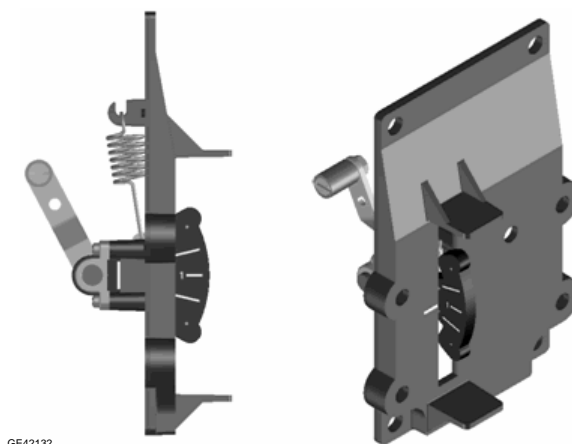
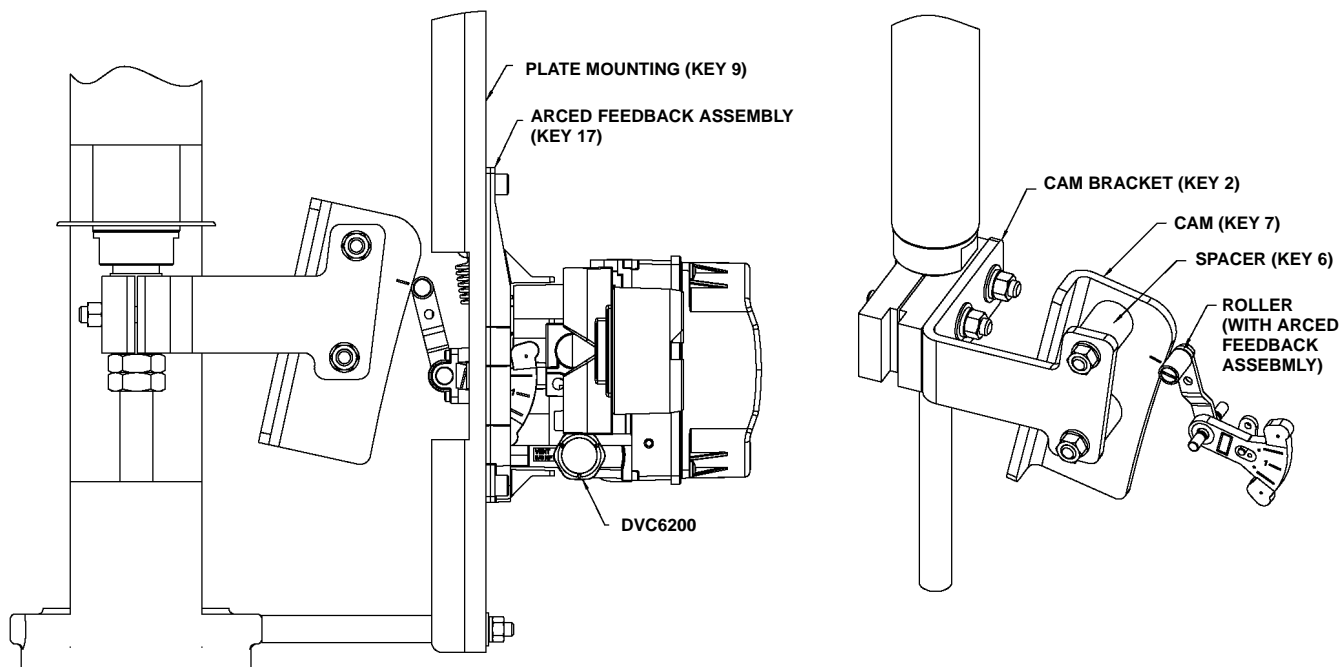
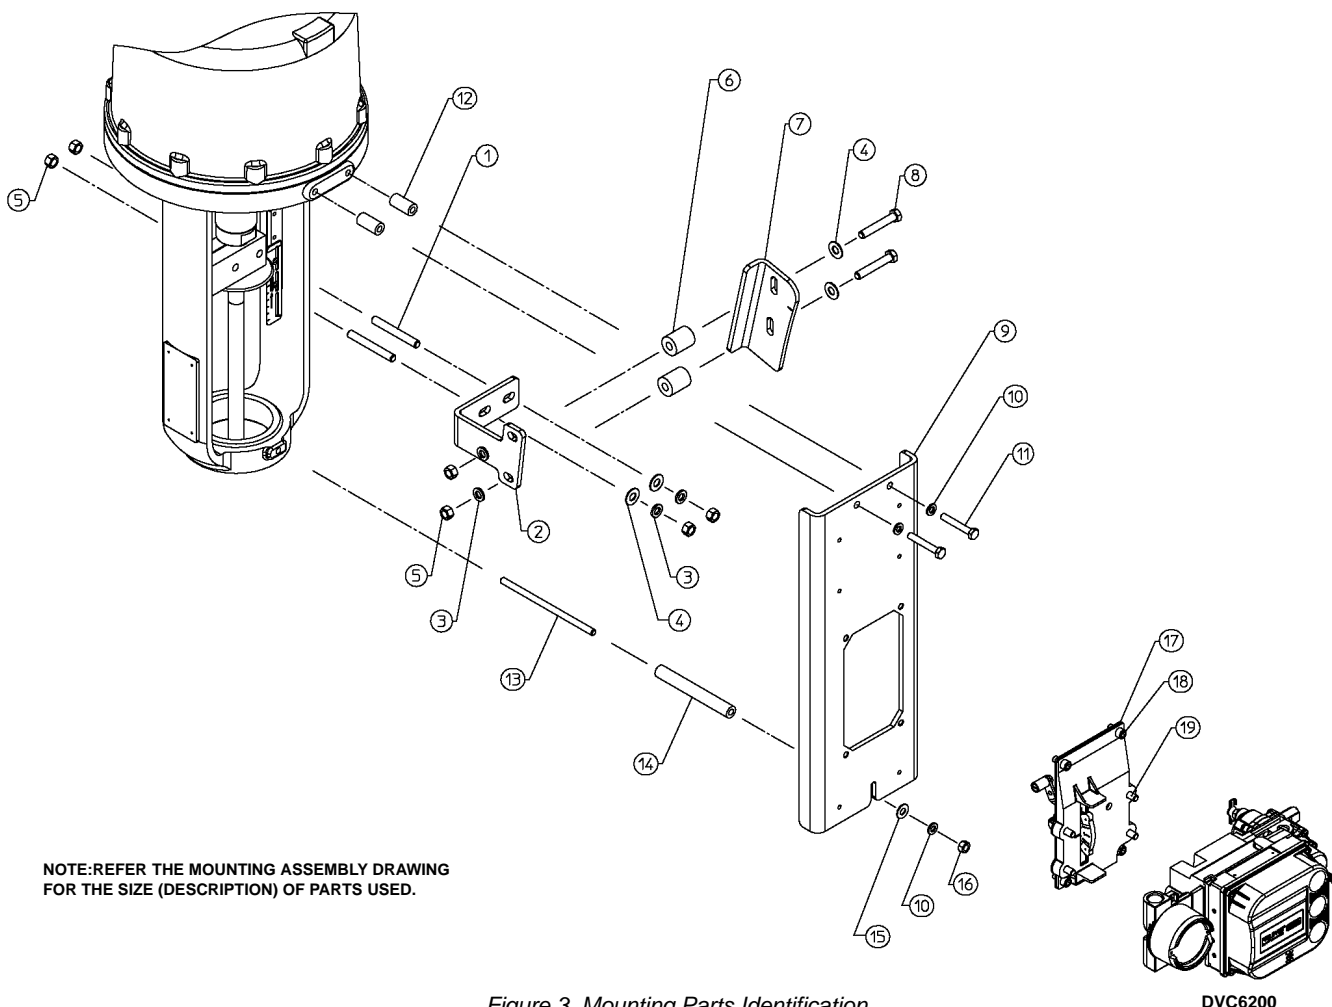

Figure 1. Arced Feedback Assembly (RShaft Window #1)
Figure 2. Installing CAM and Roller Feedback Assembly
Figure 3. Mounting Parts Identification
Refer to figure 3 and the parts list for mounting parts identification. Refer to the DVC6200 digital valve controller instruction manual for digital valve controller parts identification. Refer to the appropriate actuator instruction manual for actuator installation, operation, maintenance, and parts identification. Figure 1 shows the arced feedback assembly (RShaft Window #1).
2. During the attachment of the cam bracket (key 2) to the valve stem connector it will be necessary to remove the stem connector cap screws. Consult the appropriate actuator instruction manual for proper actuator disassembly and reassembly.
3. Attach the cam bracket (key 2) to the stem connector using two stud bolts (key 1), two plain washers (key 4), two lock washers (key 3) and four hex nuts (key 5).
4. Attach the cam (key 7) to the cam bracket using two plain washers (key 4), two lock washers (key 3), two hex head screws (key 8), and two hex nuts (key 5). Use spacers (key 6) in between cam and cam bracket. Ensure that the cam is oriented as per the mounting assembly drawing.
5. Attach the mounting plate (key 9) to the actuator yoke top mounting face using two lock washers (key 10) and two hex head screws (key 11). Additionally, use the spacer (key 12) in between the mounting plate and the yoke mounting face, as shown in figure 3. Similarly, attach the mounting plate to the bottom yoke mounting by using a spacer (key 14), stud (key 13), plain washer (key 15), lock washer (key 10) and hex nut (key 16).
6. Attach the digital valve controller to the arced feedback assembly (key 17) using the four metric hex socket cap screws (key 19).
7. Attach the arced feedback assembly along with the digital valve controller to the mounting plate using the four imperial hex socket cap screws (key 18) as shown in figure 3. Ensure that the roller of the arced feedback assembly is centered and resting on the cam surface as shown in figure 2.